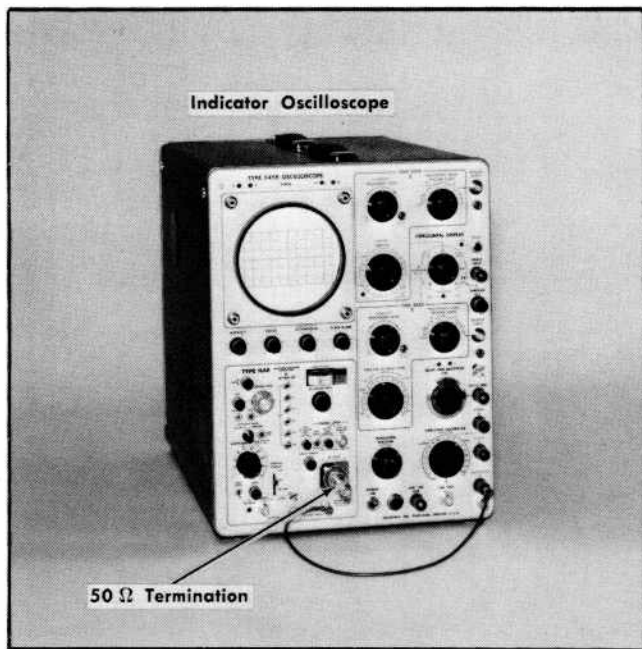

Fig. 5-26. Equipment setup to check internal spurious signal response.
- a. Equipment setup is shown in Fig 5-26.